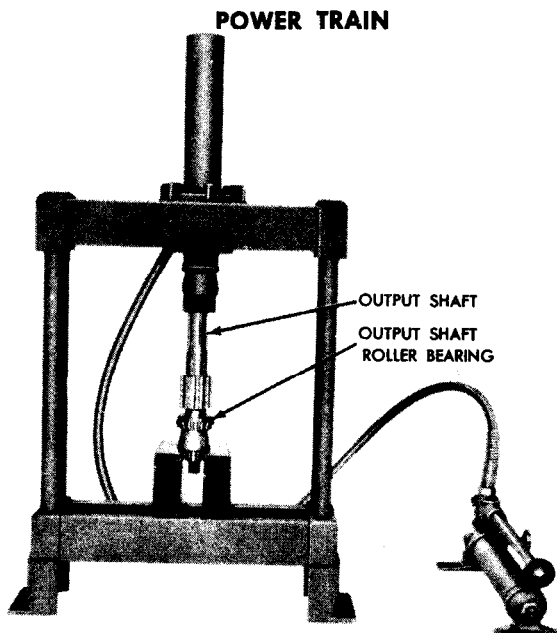

Figure 23 — Pressing Output Shaft Bearing on Output Shaft
c. Install Output Shaft in Transfer Case (figs. 23 and 24). Press the rear output shaft bearing on the output shaft (fig. 23). Set the output shaft sliding gear in the transfer case with the shifter fork in the channel of the sliding gear. Place the output shaft gear in the transfer case with the shoulder of the output shaft gear facing the sliding gear. Insert the output shaft in the transfer case and through the gears. Slide the thrust washer on the output shaft. Install the snap ring that secures the output shaft gear on the shaft. Slide the front output shaft roller bearing on the output shaft and, using a suitable driver, tap the roller bearing snug against the snap ring. Tap the front roller bearing cup